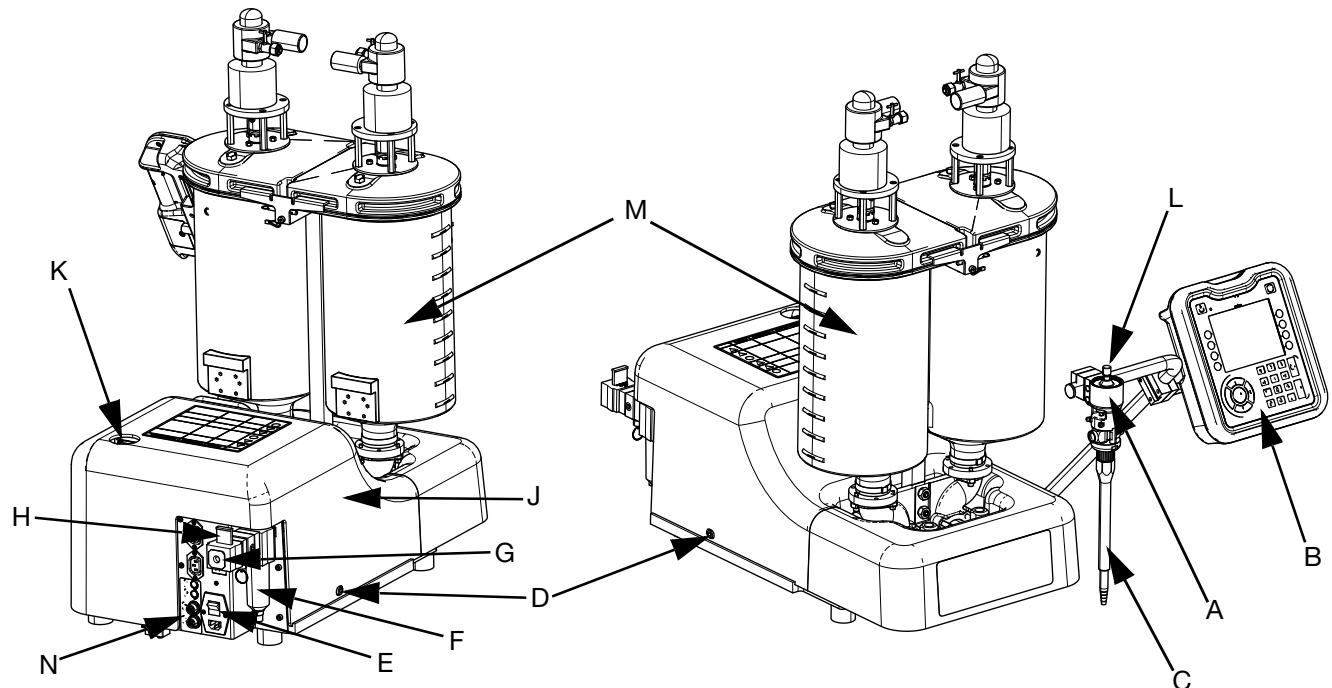

FIG. 1: Typical Fixed Ratio PR70f (Without Hoses)
1. Connect a compressed air line to the air inlet at the back of the machine. Refer to FIG. 1 on page 15 for the location of the air inlet.
1. Locate the power switch at the rear of the machine and turn the power on. Refer to FIG. 1 on page 15. The display module will automatically turn on and begin to load.
2. With the air line connected to the machine, slide up the system air pressure relief switch (see FIG. 1). It is the yellow tab on the air inlet at the rear of the machine. The hole in the tab should not be showing.